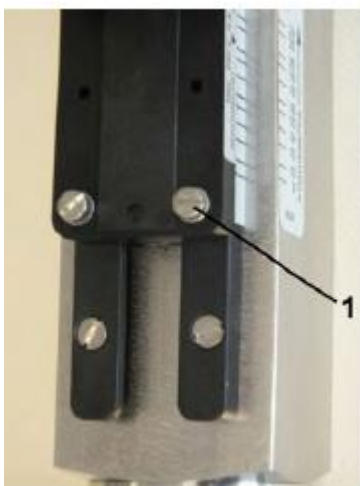

Fig. 32: Loosen set screws
1. ► Loosen the set screws of the switch contact (Fig. 32/1) using a flat-bladed screwdriver.
3. ► Re-tighten the set screws of the switch contact (Fig. 32/1) using a flat-bladed screwdriver. When doing so, observe the correct tightening torque of the screws.